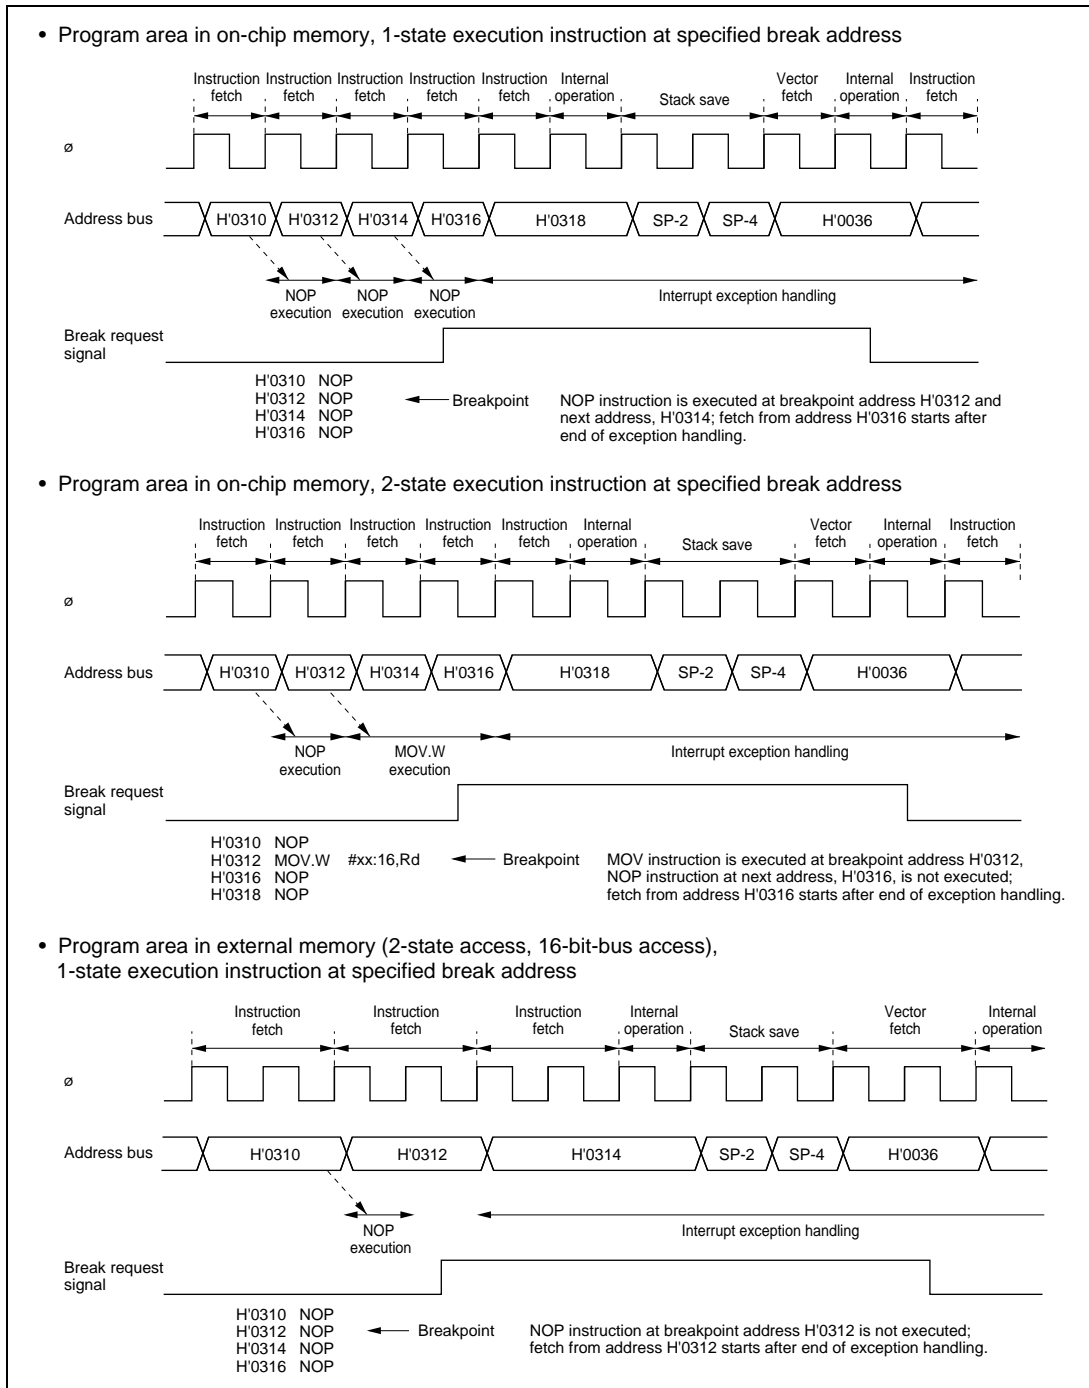

Figure 5.6 Examples of Address Break Timing
4. As an address break interrupt is generated by a combination of the internal prefetch signal and address, the timing of the start of interrupt exception handling depends on the content and execution cycle of the instruction at the set address and the preceding instruction. Figure 5.6 shows some address timing examples.